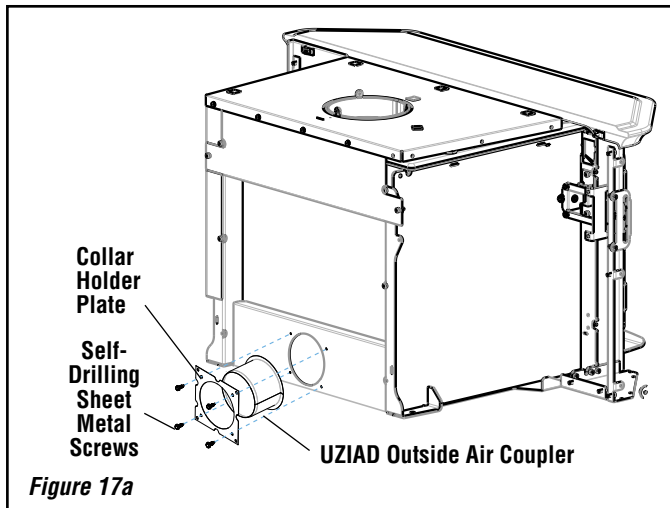

Figure 17a
**Collar with Collar Holder:** Center the 4" dia. collar on the air intake opening and then secure with the collar holder, using the four (4) 5/8" Tek Screws provided, lining the plate up with the capture holes on the unit. In some instances the capture holes may be absent; the tek screws should then be used to start the holes directly (*Figure 17a*).